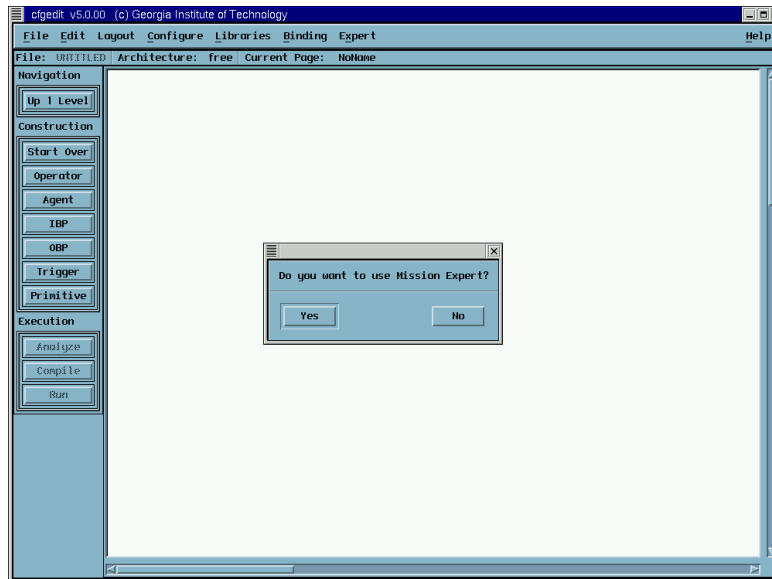

Figure 67: *CfgEdit* with the dialog box asking for Mission Expert usage
- The second dialog should ask you whether to use Mission Expert (Figure 67). Select “Yes” to the question.